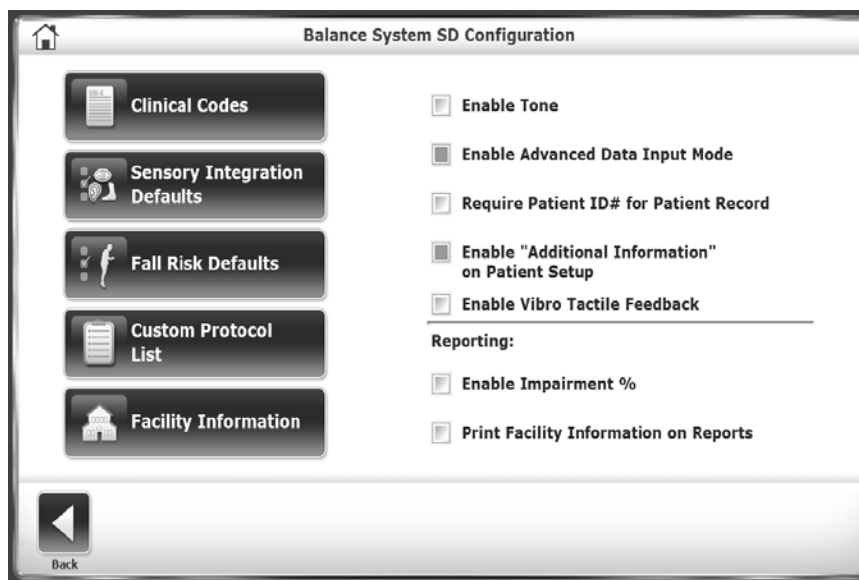

Figure 2.5. Balance System SD Configuration Screen.
- Touch Balance System SD Configuration screen (see Figure 2.5).